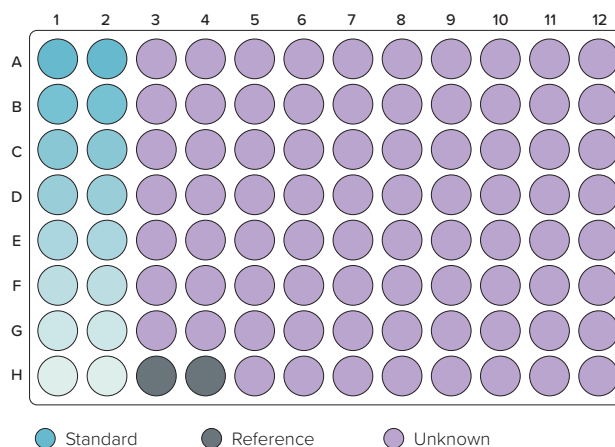

Figure 1: Example plate layout for a routine assay run in a 96-well microplate.
- 3 Transfer triplicates of the standards and the unknowns to a sample plate. It is recommended to organize samples in columns, from A–H. Fill at least one well with blank diluted matrix for reference subtraction during data analysis. An example plate map is shown in Figure 1.
- 2 Pipette standards, calibrators and samples into a black polypropylene microplate (see Figure 1 for a sample plate layout).
- 5 Set up a Basic Quantitation assay. An example plate map is shown in Figure 1. For details on how to set up an assay see the Octet Data Acquisition Software User Guide.